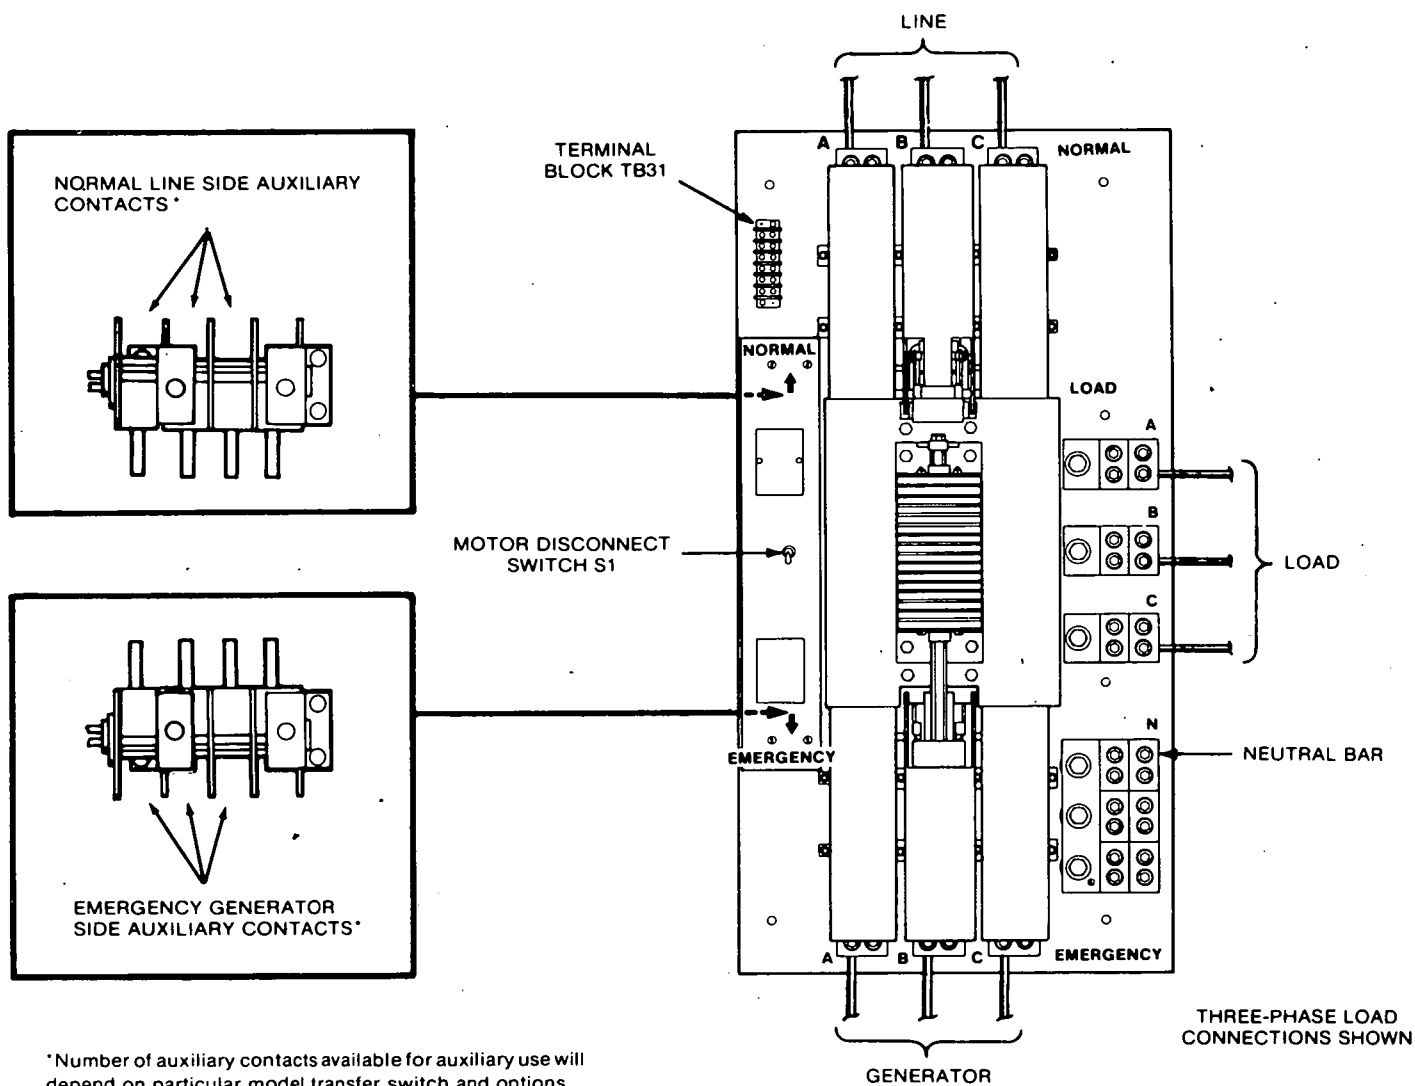

FIGURE 4. TRANSFER SWITCH WIRE CONNECTIONS
4. Neutral Bar (if used): Connect the neutral wires to the neutral bar (Figure 4). Table 1 lists the wire sizes and types the neutral bar accepts.
9. **Auxiliary Contacts (if used):** Auxiliary contacts are located on the normal and emergency sides of the transfer switch for external alarm or control circuitry. To gain access to the auxiliary contacts, remove the transfer switch cover which houses the motor disconnect switch S1 (cover held in place by four screws). See Figure 4. The contacts have ratings of 25 amperes at 125, 250, or 480 VAC; 1 horsepower at 125 VAC; 2 horsepower at 250 VAC or 480 VAC; and a pilot duty rating of 750 VA at 277 VAC maximum.